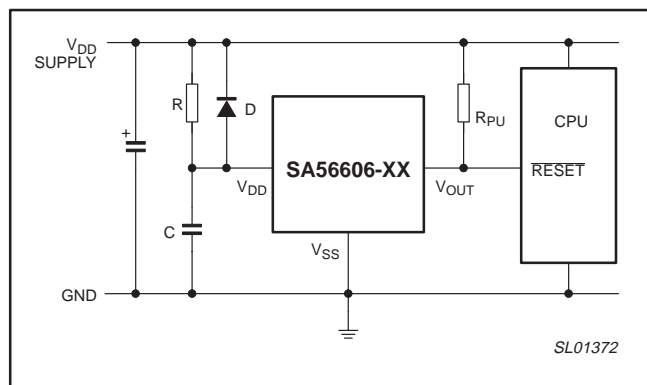

Figure 15. Power ON reset circuit.
The Power ON Reset Circuit shown in Figure 15 is an example of how to obtain a stable reset condition upon power-up. If the power supply voltage rises abruptly, the RESET may go HIGH momentarily when V_{DD} is below the minimum operating voltage (0.95 V). To overcome this, a resistor (R) is placed between positive supply and the V_{DD} pin with a capacitor from the V_{DD} pin to ground.